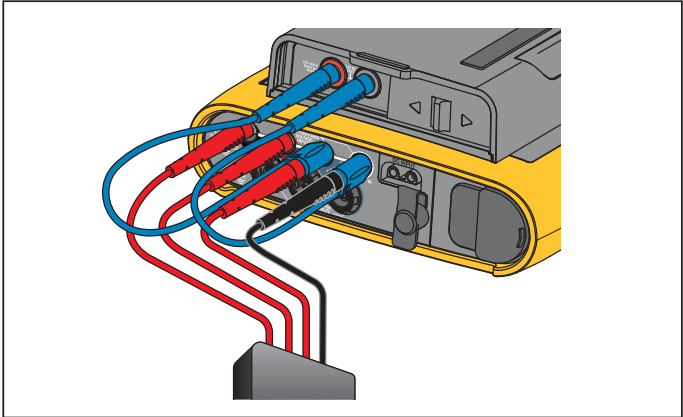
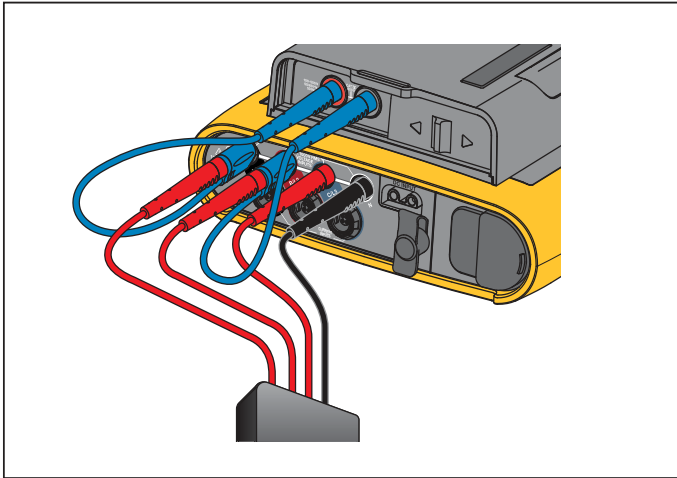

Figure 7. Measurement with Neutral Voltage and Instrument Power Supply
Figure 8. Measurement without Neutral Voltage and Instrument Power Supply
3. Connect the short test leads (see Figure 7 and Figure 8) with the power supply inputs. Make sure to use the non-stackable plugs. The test leads are rated for measurement/overvoltage CAT III 1000 V and CAT IV 600 V.
7. See Figure 7 to supply power to the Logger from installations with neutral voltage.
9. See Figure 8 to supply power to the Logger from installations without neutral voltage.